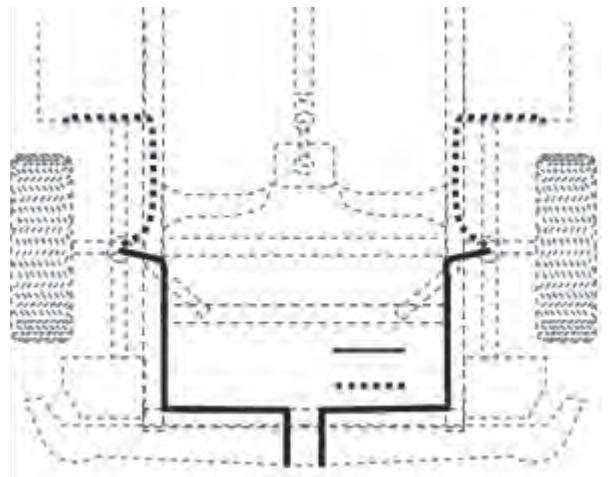

fig. 8
A. Select a location for the inflation valves in the rocker panel flange, or rear bumper, assuring that each valve will be protected and accessible with an air hose (Figure 8).